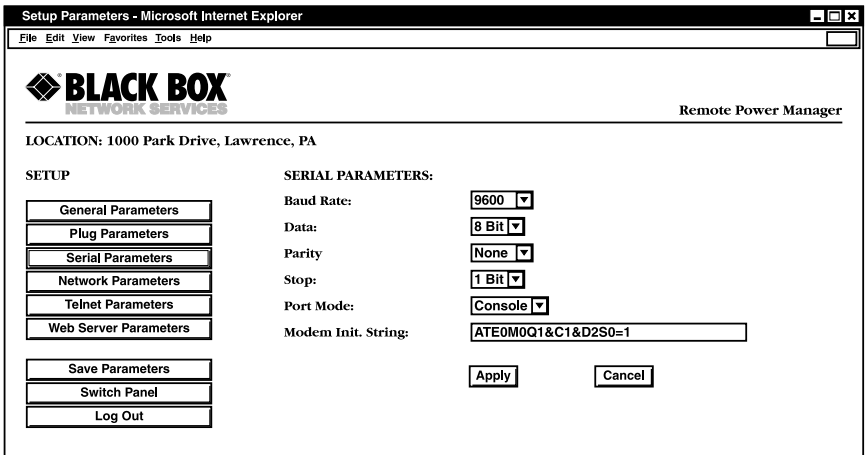

Figure 4-7. Serial Parameters menu—Web browser interface.
- Web browser interface: Click on the **Setup** button to access the Setup menus, then click on the **Serial Parameters** button. The Serial Parameters menu appears (Figure 4-7). Once you select the appropriate menu options, click on **Apply** to save the settings or **Cancel** to start over.
As shown in Figures 4-7 and 4-8, the Serial Parameters menus allow you to define the following parameters: